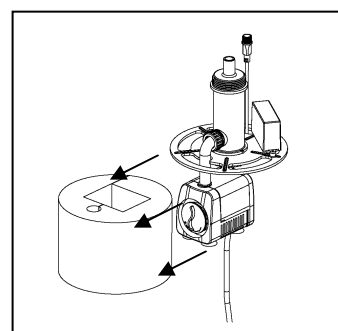

Fig. 9
6. Remove the filter pad and rinse until it is clean. Then reassemble the pump and filter assembly. Fig. 9